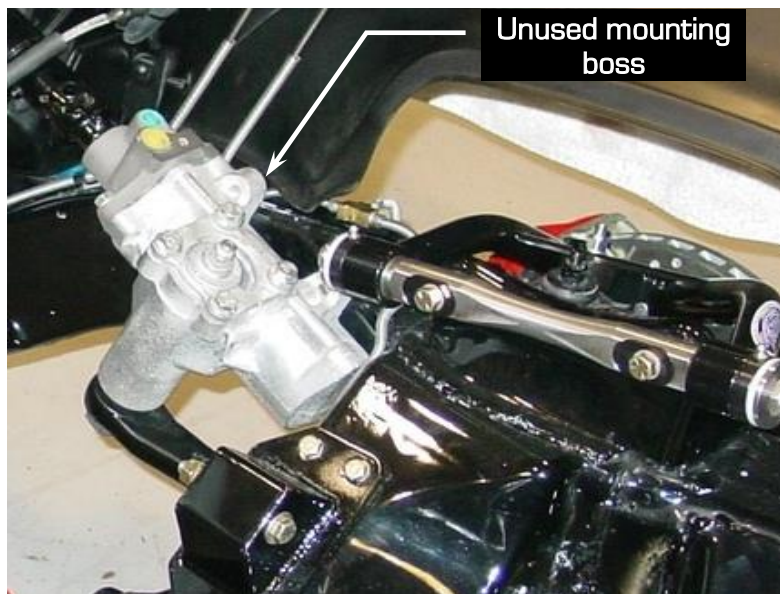

Figure 1 - Unused Mounting Boss
7. Place the DSE steering gear against the frame and thread the three bolts into the new steering gear. Be sure to use the correct mounting points on the steering as the fourth mounting boss is not used (Figure 1). Torque the mounting bolts to 70 ft/lbs. **NOTE:** If the fourth mounting point does need to be used you will need to add a 1/2" thick spacer between the steering gear and the frame. You will also need to use a 1/2" long bolt.